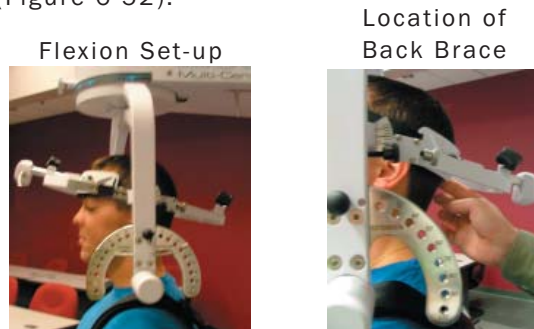

Figure 6-52. Initial Isometric Flexion & Extension Set-up
Step 8. For a flexion test, insert the front head brace. For an extension test, insert the back head brace. Note that the bottom of the back brace is located at the external occipital protuberance (Figure 6-52).